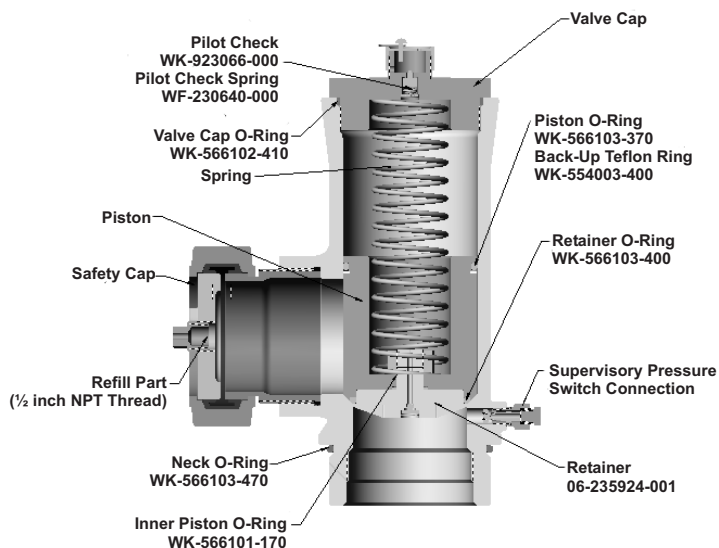

Figure 6-3. 3" Valve Assembly
Note: Refer to Figure 6-3 for items.
Note: Refer to Figure 6-3.
1. Install the O-ring (Item 2 in Figure 6-3) in the piston groove.
Make certain that the Teflon® back-up ring is below the O-ring as shown in Figure 6-3.